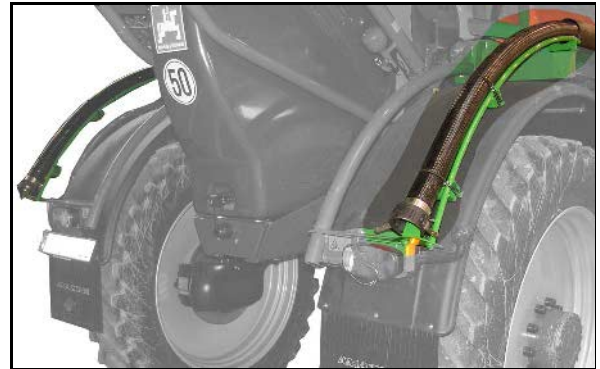

Fig. 74
- The additional agitator must be set on the setting tap (Fig. 74/1).
The additional agitator is switched off when in setting tap position 0. The fastest stirring performance is available in position (Fig. 74/2).
Safety device for drainage function on the pressure filter (Fig. 74/3).